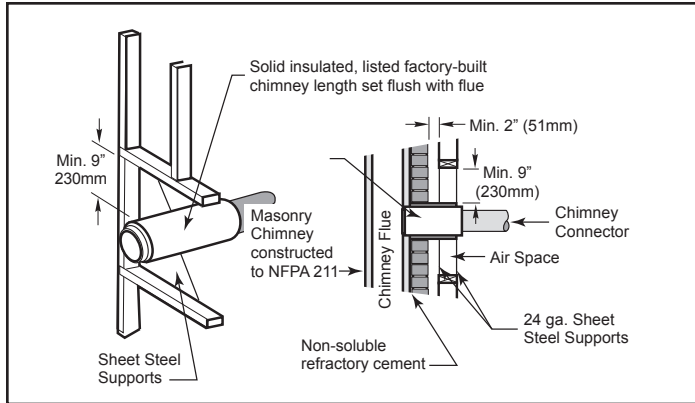

Figure 5.7 - Wall Pass-through using factory-built insulated chimney section.
- Using a section of double-wall chimney with a 9" (229 mm) clearance to combustibles. (Figure 5.7)